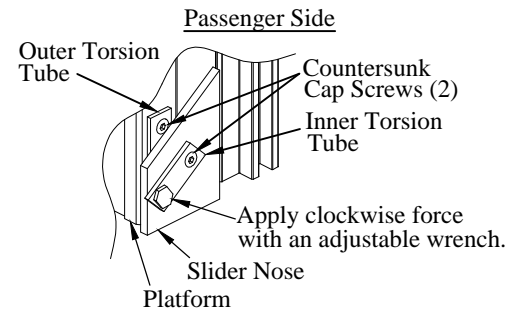

Figure 1: Torsion spring hardware.
Use Method #1 if the platform is equipped with a torsion spring as shown (Figure 1).
Use an adjustable wrench (Figure 1).
Continue to hold clockwise torque on the torsion spring holder (Figure 1).
9. **RAISE** the passenger side slider by hand to expose the outer torsion tube holder (Figure 1).
11. **PULL** the outer torsion tube assembly out of the platform (Figure 1).